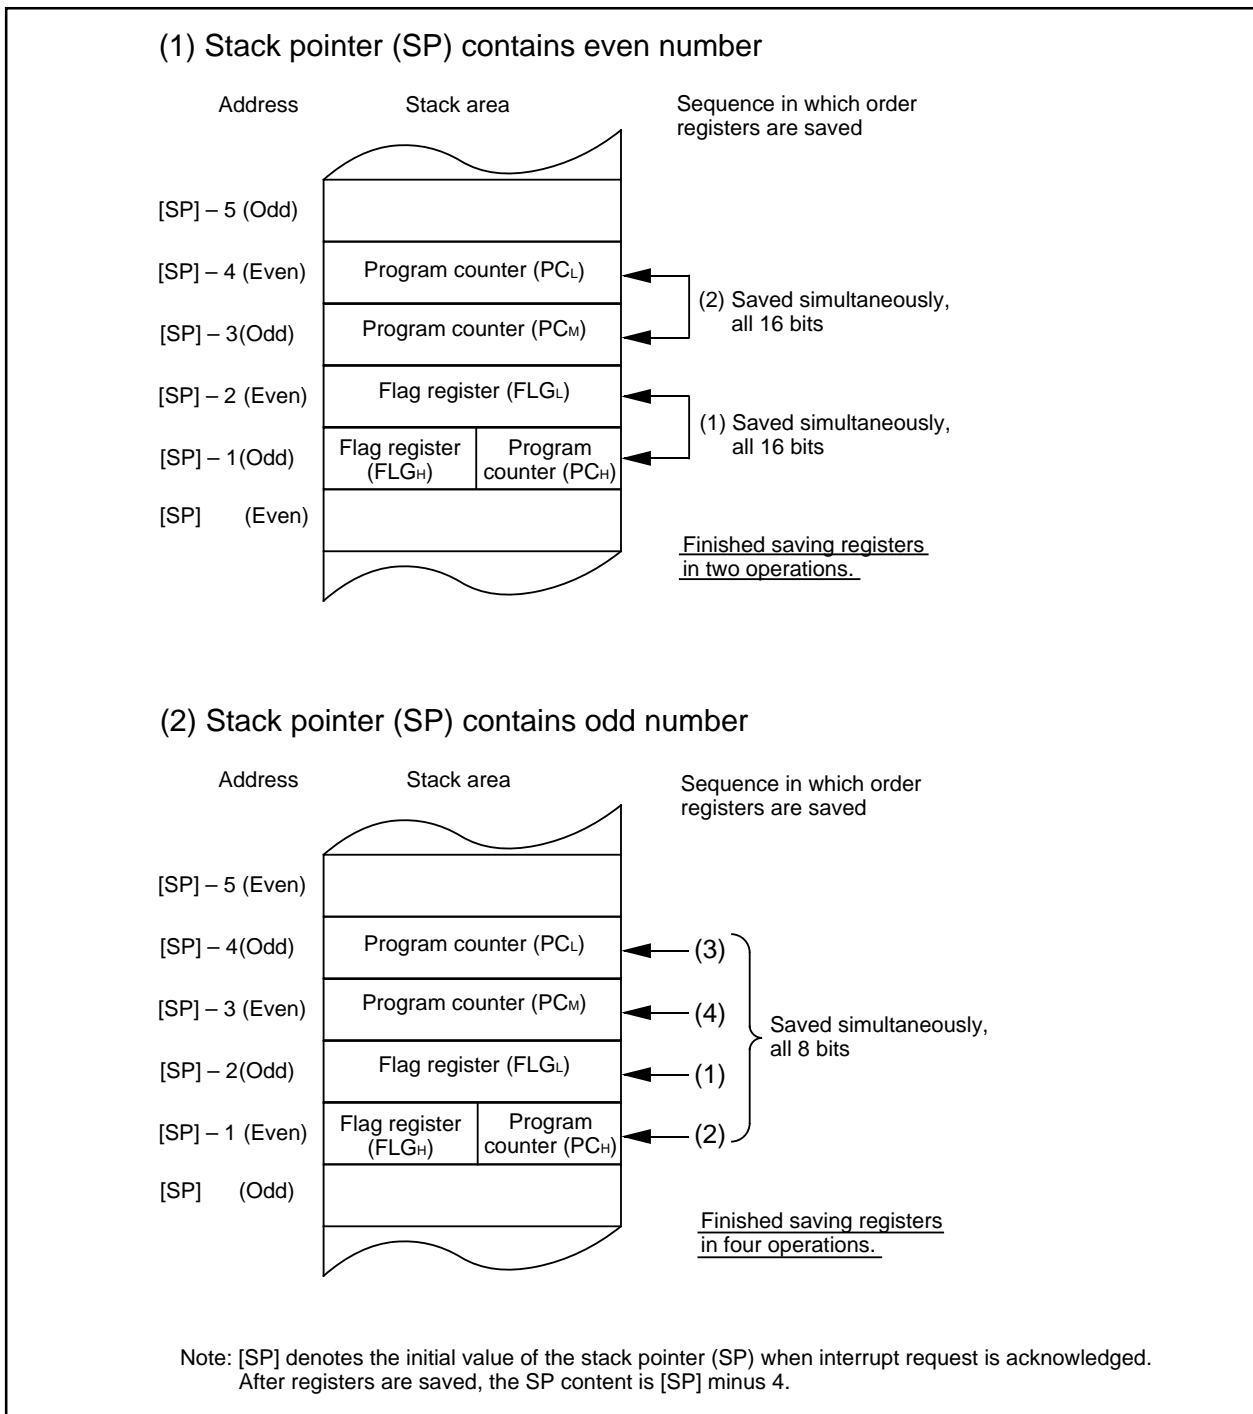

Figure 6-7. Operation of saving registers
The operation of saving registers carried out in the interrupt sequence is dependent whether content of the stack pointer, at the time of acceptance of an interrupt request, is even or odd. If the counter of the stack pointer (Notze) is even, the counter of the flag register (FLG) and the content of the program counter (PC) are saved, 16 bits at a time. If odd, their contents are saved in two steps, 8 bits at a time. Figure 6-7 shows the operation of the saving registers.